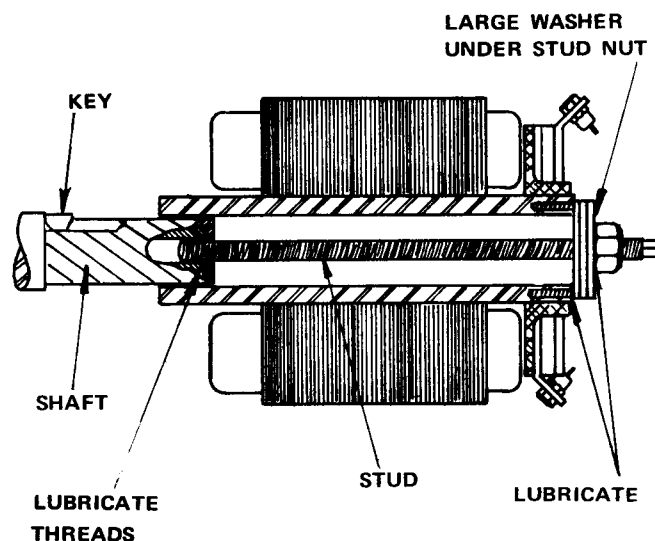

Figure 4-6 Installing Exciter Armature And Rotating Rectifier Assembly
- a. If the "slip fit" exciter armature and rotating assembly will not easily slide onto the shaft by hand install with a fixture as shown in figure 4-6 and described in step (b).
- b. Refer to figure 4-6 for fixture setup. Start exciter armature and rectifier bridge on shaft. Thread stud in rotor shaft. Install large diameter washers on stud and start stud nut. Pull exciter armature and rotating rectifier onto shaft by turning stud nut. Make certain key is in place (see figure 4-6).